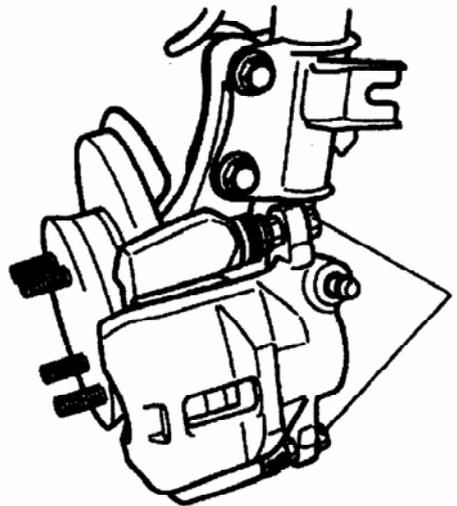

FIG.16-16 1.Mounting bolt
- (3) Remove caliper mounting bolts. (FIG.16-16)